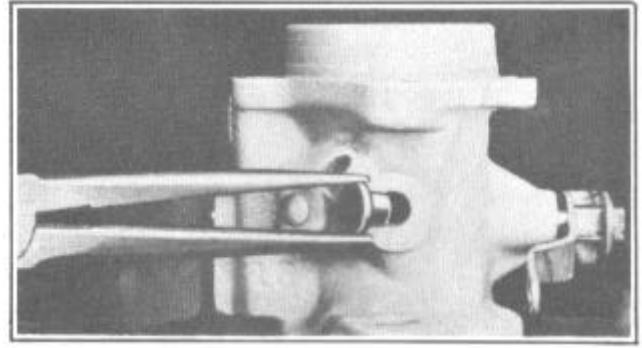

FIGURE 27
13. Remove idle port rivet plug, Figure 27.